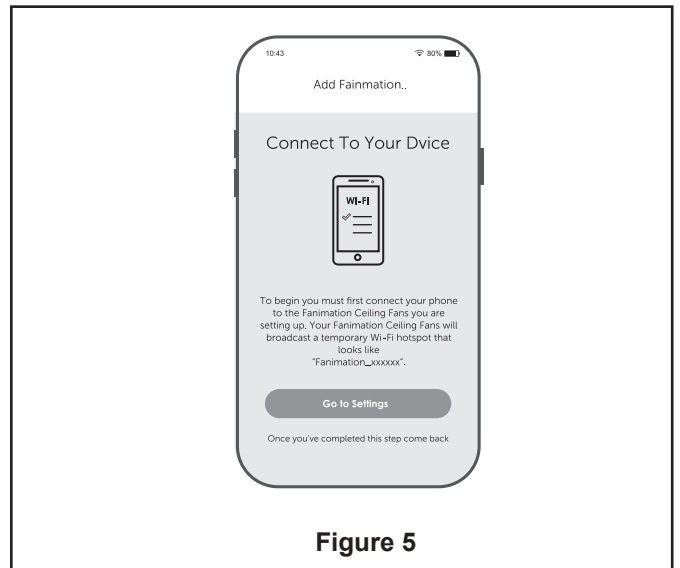

Figure 5
- ☐ 5. Install two 3V batteries in hand-held remote transmitter, with fan power off. (Figure 5)
- ☐ 5. At this stage, your ceiling fan WiFi receiver should be installed and within range of your WiFi router. With the APP open, select "add device". (Figure 5)